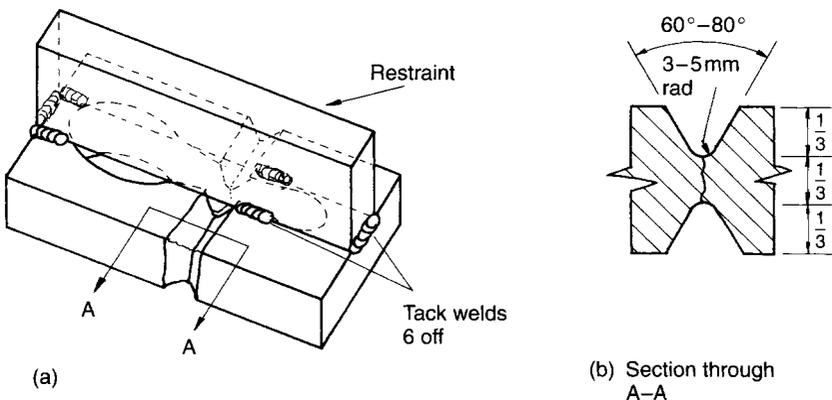
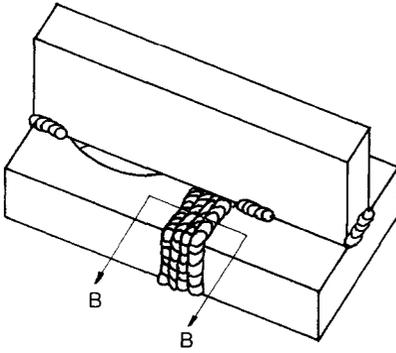
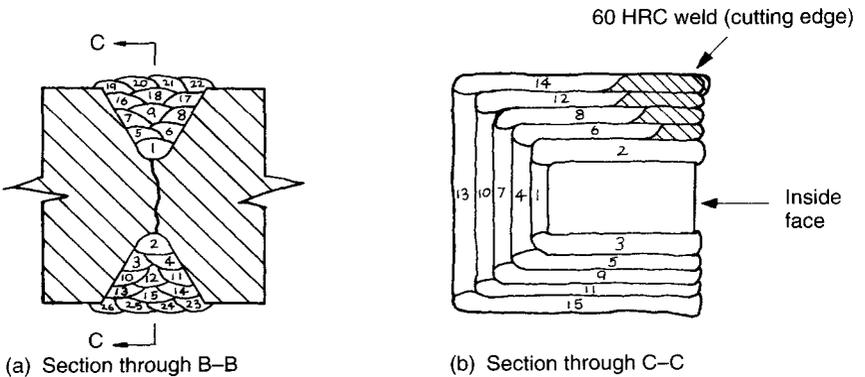

Fig. 6.4
Fig. 6.5
Fig. 6.6
**Solution 2** The broken spoon die is to have a one-third preparation on the outside faces only because the customer insisted on minimum weld metal on the inside faces, minimum shrinkage and excellent relocation of the broken pieces; see Fig. 6.4. To minimize distortion the tool must be restrained during welding (see Fig. 6.5) and welded in alternate sequence; see Fig. 6.6.
In Fig. 6.6(a), the weld sequence shows a cross section of each run. In Fig. 6.6(b), a section through the layers of weld shows the alternated sequence on all three sides including the 60 HRC filler metal layers.